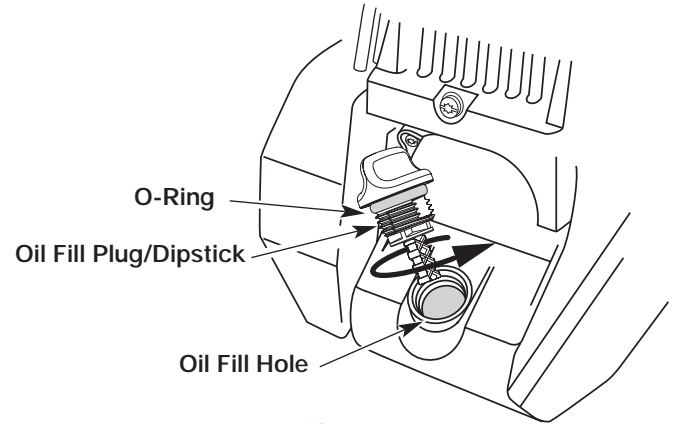

Figure 8
3. Remove the oil plug / dipstick from the crankcase. See Figure 8.